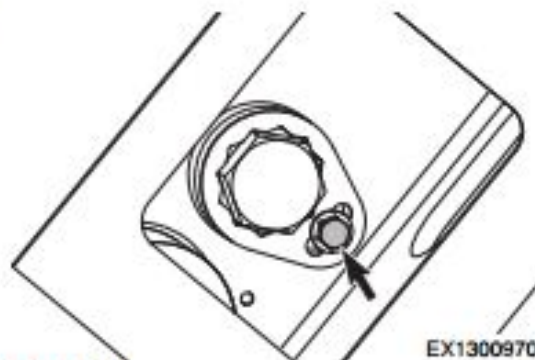

Figure 16
9. Install the bolt which is fixing the plate to prevent loosening of ROPS bolt (Figure 16).